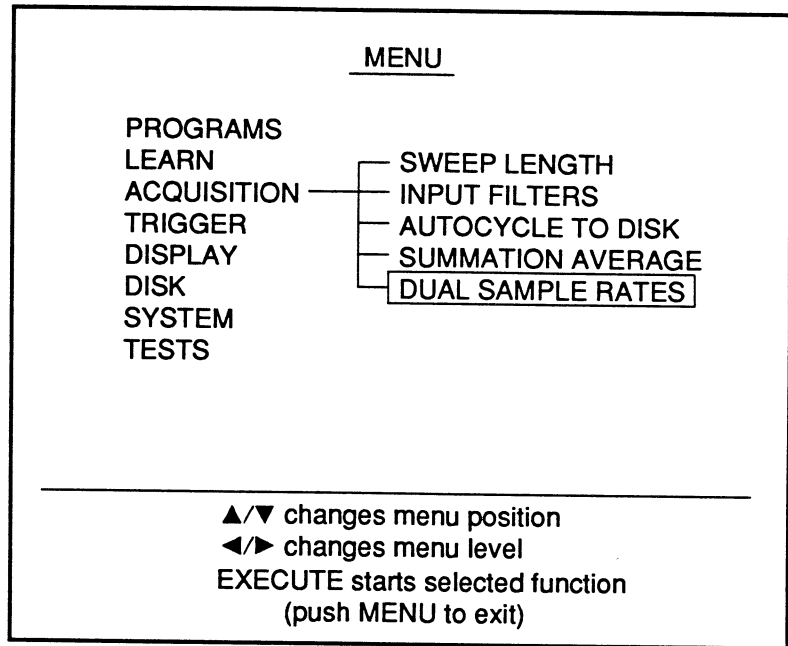

Figure 1 - Dual Sample Rates
1. Press the Menu button. The Menu screen appears (Figure 1).
2. Using the Cursor buttons, select the ACQUISITION menu and then select DUAL SAMPLE RATES as shown in Figure 1.
6. To set the Time Per Point value for channels 1 and 2, highlight the left value (Figure 1) by pressing the Select button and then adjusting the Time control knob until the desired setting appears.
For example, if you set channel 1 to 500 nS and channel 3 to 1.0 μS as shown in Figure 1, select channel 1 as the trigger source.
Figure 1 - The Time Per Point has been set to 500 nS for channels 1 and 2, and 1.0 μS for channels 3 and 4 in this example. The Select button is used to choose which pair of channels will be set by adjusting the Time control.